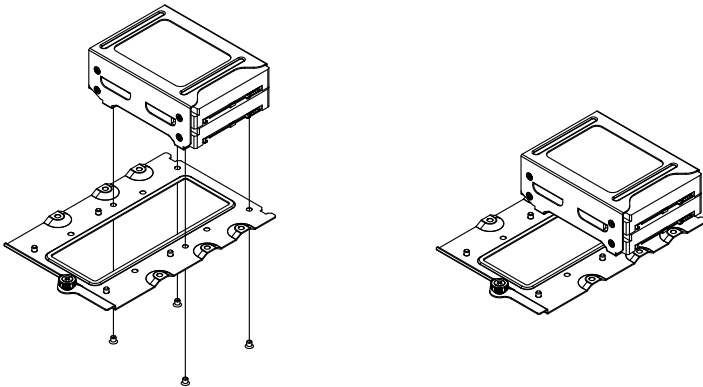

Figure 5-5. Securing the Bracket to the HDD Tray
2. Secure the bracket to the optional HDD mounting tray. (Figure 5-5)